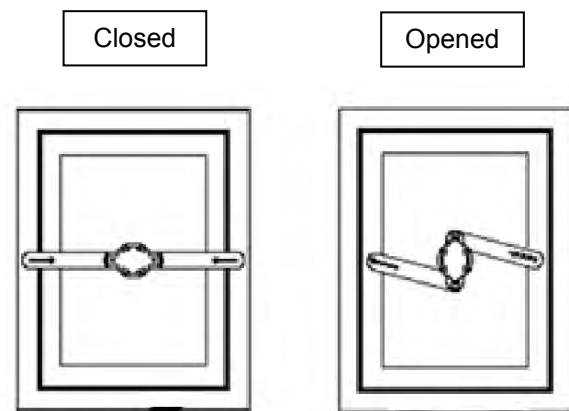

Figure 83
- ♦ Verify the functionality of the escape hatch's release mechanism prior to installation and before use. Please ensure that the hatch's arms are retracted when open and non-retracted when closed (Figure 83)